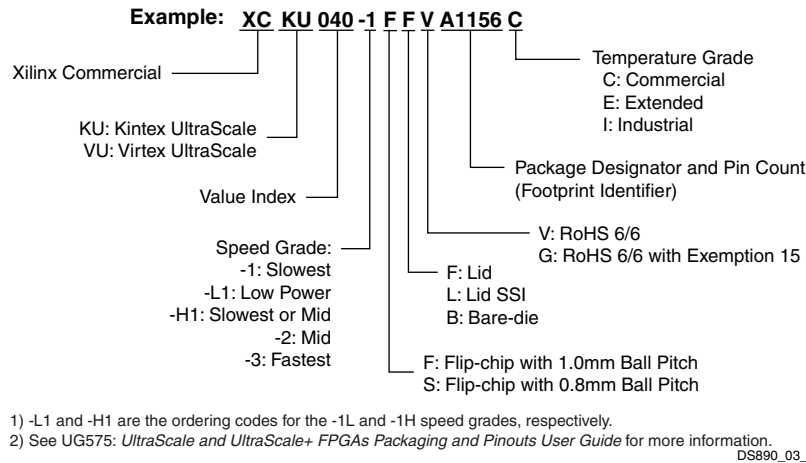
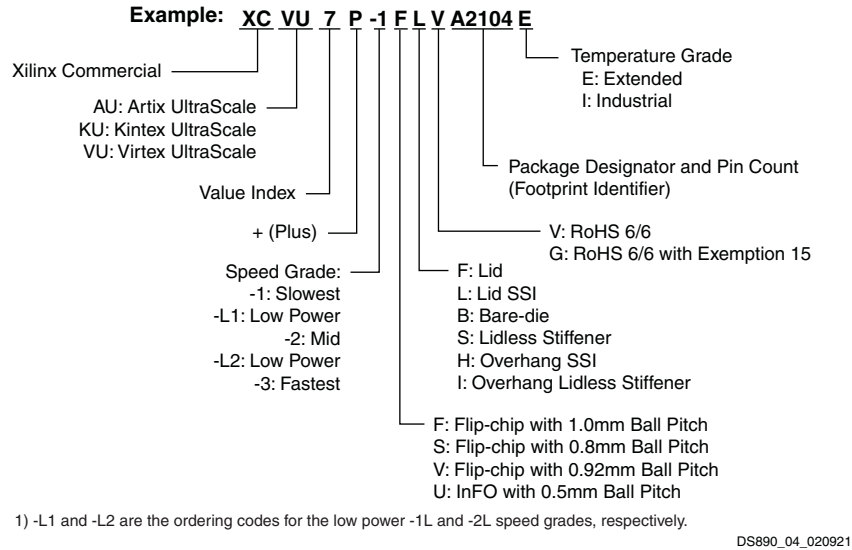
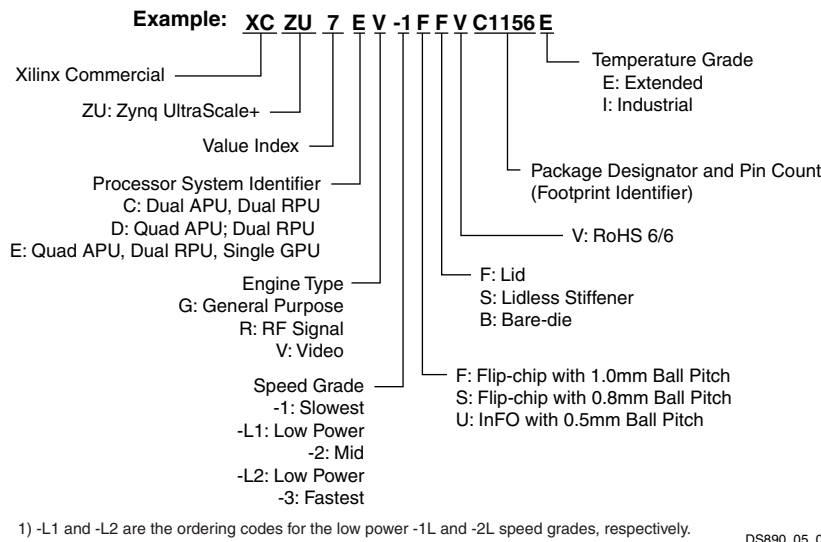

Figure 3: Kintex UltraScale and Virtex UltraScale FPGA Ordering Information
Figure 4: UltraScale+ FPGA Ordering Information
Figure 5: Zynq UltraScale+ MPSoC and RFSoc Ordering Information
The ordering information shown in Figure 3 applies to all packages in the Kintex UltraScale and Virtex UltraScale FPGAs. Refer to the Package Marking section of UG575, UltraScale and UltraScale+ FPGAs Packaging and Pinouts User Guide for a more detailed explanation of the device markings.
The ordering information shown in Figure 4 applies to all packages in the Artix UltraScale+, Kintex UltraScale+, and Virtex UltraScale+ FPGAs, and Figure 5 applies to Zynq UltraScale+ MPSoCs and RFSocS.
| 11/15/2017 | 3.1 | Updated Table 22 with FSVE1156, FSVG1517, and FSVF176 0 packages. Updated Figure 5 . |
| 10/03/2017 | 3.0 | Added Zynq UltraScale+ RFSoc information throughout document. Updated General Description , Table 1 , RF Data Converter Subsystem Overview , Soft Decision Forward Error Correction (SD-FEC) Overview , Processing System Overview (including Table 2), Configuration , Encryption , and System Monitoring , Table 25 , Table 27 , and Figure 5 . Updated UltraRAM ZU4CG/ZU4EG/ZU4EV values in Table 15 , Table 17 , Table 19 . Added Table 21 , Table 22 , RF Data Converter Subsystem Overview , and Soft Decision Forward Error Correction (SD-FEC) Overview . Updated Figure 3 , Figure 4 , and Figure 5 . |
| 06/03/2016 | 2.8 | Added Zynq UltraScale+ MPSoC CG devices: Added Table 2 . Updated Table 15 , Table 16 , Table 27 , and Figure 5 . Created separate tables for EG and EV devices: Table 17 , Table 18 , Table 19 , and Table 20 . Updated Table 1 , Table 5 , Table 7 and notes, Table 8 and notes, Table 9 , Table 11 , Table 14 , Processing System Overview , and Processing System (PS) details. |
| 02/17/2016 | 2.7 | Added Migrating Devices . Updated Table 6 , Table 7 , Table 8 , Table 14 , Table 15 , Table 16 , and Figure 4 . |
| 10/15/2015 | 2.4 | Updated Table 1 , Table 5 , Table 7 , Table 9 , Table 11 , and Table 15 with System Logic Cells. Updated Figure 3 . Updated Table 25 . |
| 09/29/2015 | 2.3 | Added A1156 to KU095 in Table 6 . Updated Table 7 . Updated Max. Distributed RAM in Table 11 . Updated Distributed RAM in Table 15 . Added Table 25 . Updated Table 27 . Updated Figure 3 . |
| 04/27/2015 | 2.1 | Updated Table 1 , Table 5 , Table 6 , Table 7 , Table 8 , Table 9 , Table 14 , Table 15 , Table 16 , Table 23 , I/O , Transceiver , PCIe , 100G Ethernet , and 150G Interlaken , Integrated Interface Blocks for PCI Express Designs , USB 3.0/2.0 , Clock Management , System Monitor , and Figure 3 . |
| 11/17/2014 | 1.5 | Updated I/O , Transceiver , PCIe , 100G Ethernet , and 150G Interlaken ; Table 1 ; Table 6 ; Table 9 ; Table 10 ; Table 23 ; Input/Output ; and Figure 3 . |
| 09/16/2014 | 1.4 | Updated Logic Cell information in Table 1 . Updated Table 5 ; I/O , Transceiver , PCIe , 100G Ethernet , and 150G Interlaken ; Table 9 ; Table 10 ; Integrated Block for 100G Ethernet ; and Figure 3 . |